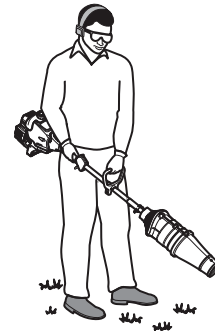

Fig. 6
- Stand in the operating position (Fig. 6).